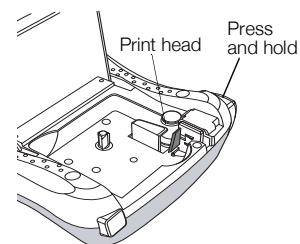

Figure 5
- 2 Press and hold the cutter button to expose the cutter blade. See Figure 5.